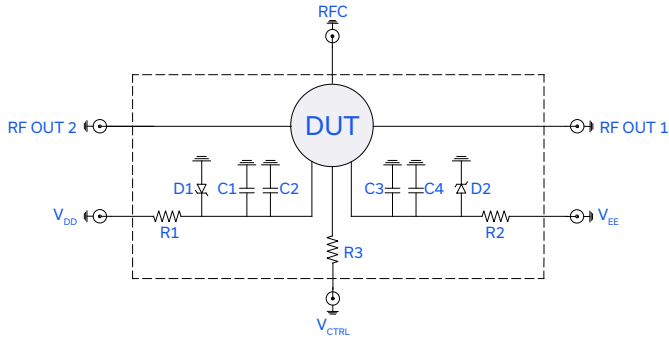

Figure 3. M3SWA2-34DR-D+ Characterization and Application Circuit
- Refer to the table in Figure 3 for more details on the passive components